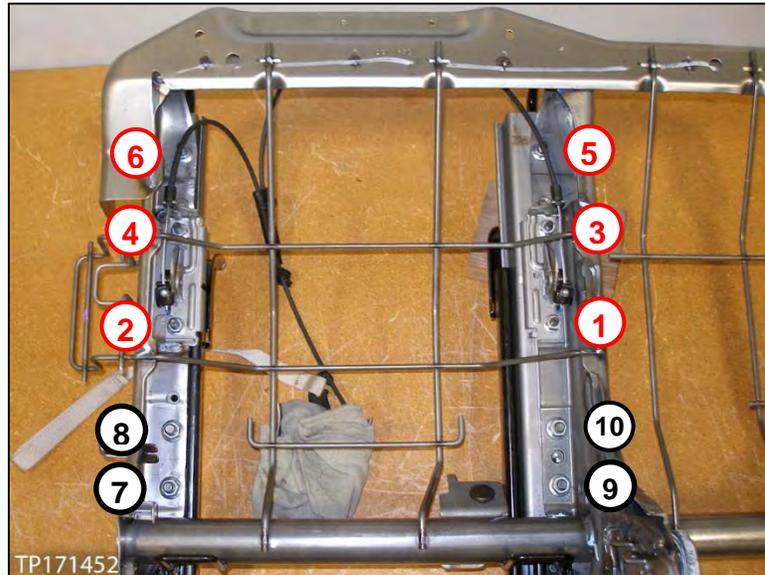

Figure 50a
- See order of torque sequence in Figure 50a (12 mm numbered in **RED**, 14 mm in **BLACK**).